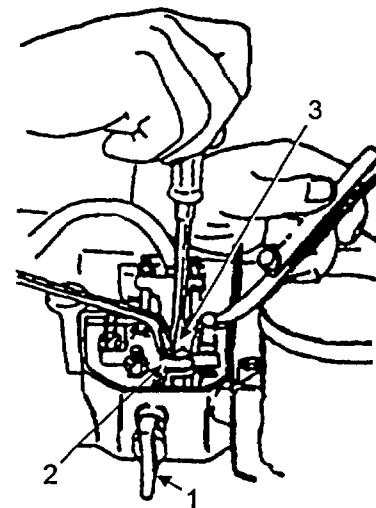
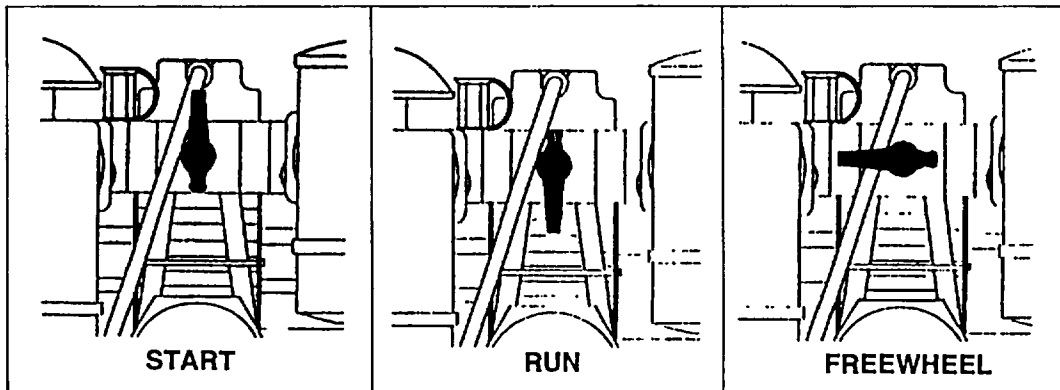

Figure 4-2. Tappet Adjustment
Figure 4-3. Decompression Lever Positions
a. Put decompression lever (Figure 4-2, Item 1) in the RUN position. See figure 4-3.
c. Check clearance between rocker and valve stem with a feeler gauge. Tappet clearance cold should be 0.004 inch (0.10mm). To correct clearance, loosen nut (Item 2, figure 4-2).
d. Adjust screw (Figure 4-2, Item 3) with a screwdriver until feeler gauge can be pulled between rocker and valve stem with very slight resistance after nut (2) has been tightened.
- a. Rotate the decompression lever (Figure 4-2, Item 1) clockwise to START position (see Figure 4-3).